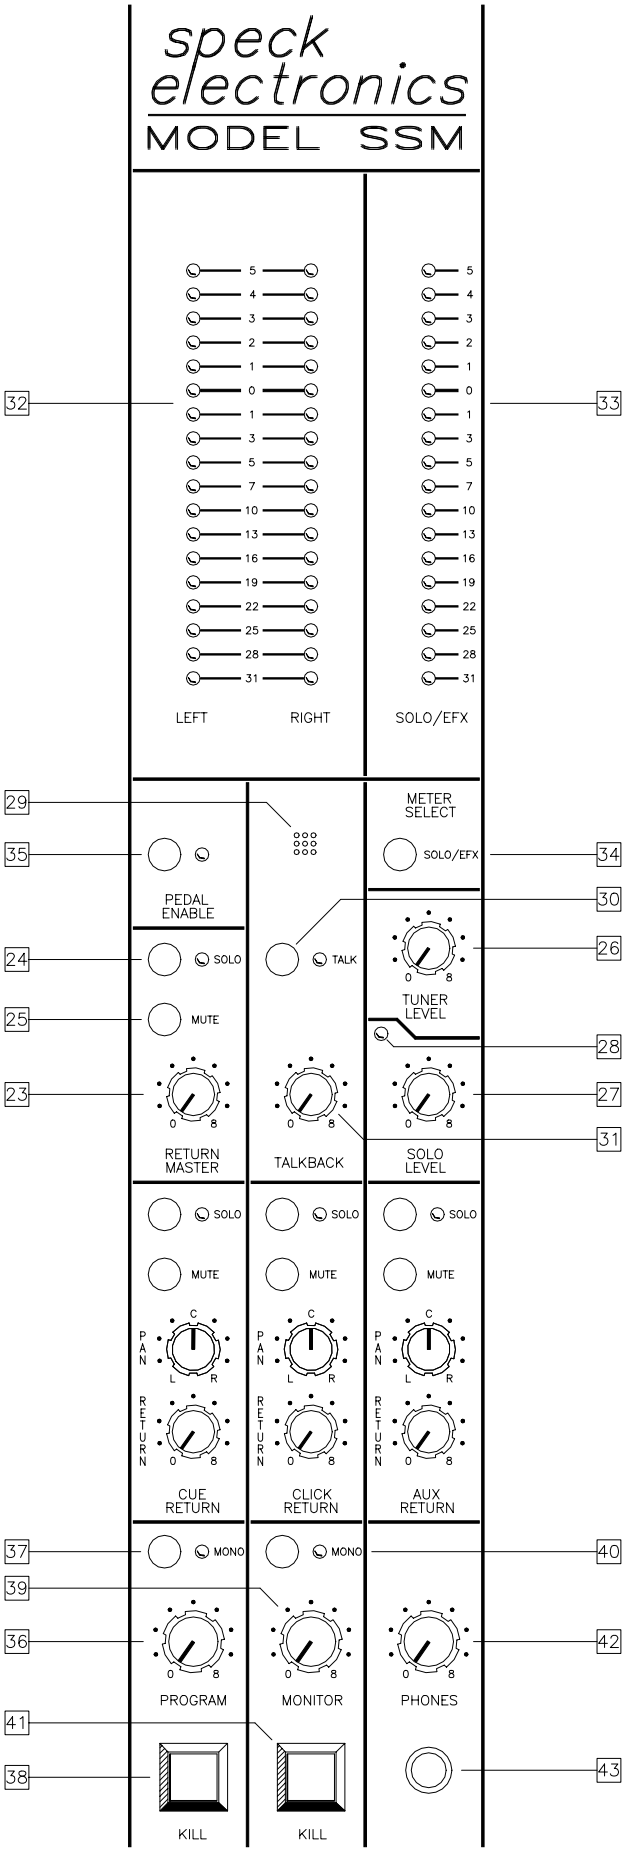

Figure 5. Master Section
*Refer to Figure 5 for location of items 23 thru 43.*